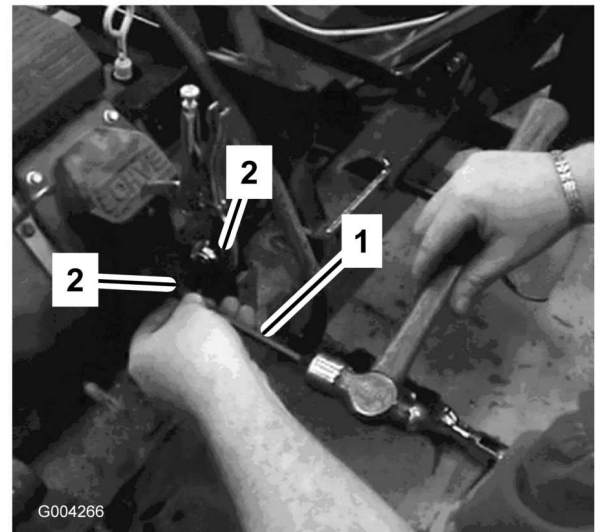

Figure 12
8. Use the two lower holes on the selector bracket as a template and a .320 diameter transfer punch to mark the location for holes to be drilled on the frame (Figure 12).